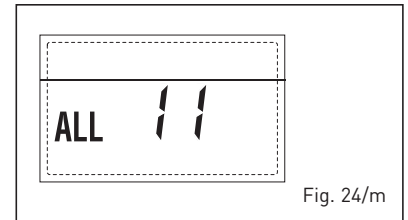

Fig. 24/m
– CONFIGURATION ANOMALY "ALL 12" (fig. 24/n)